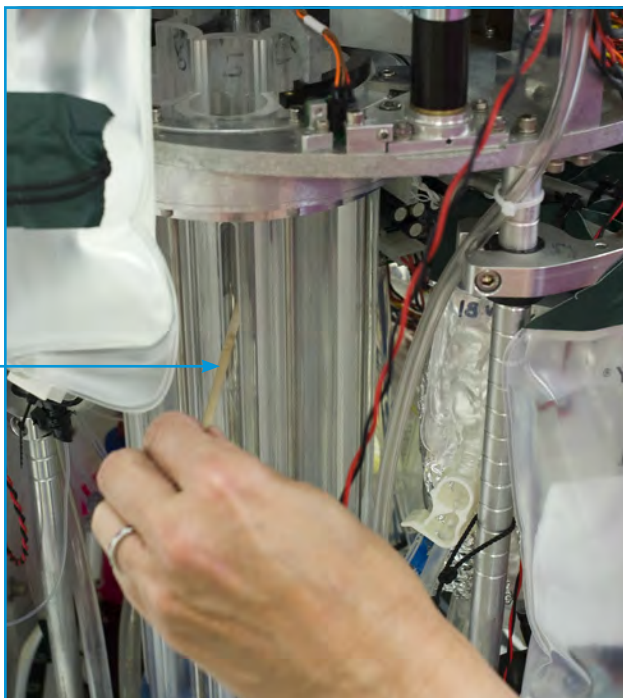

Figure 1-10: Support for loading pucks
- b. Place a wooden or plastic support into the elevator groove and all the way into the tube. Move the stick to the top of the tube. See Figure 1-10.